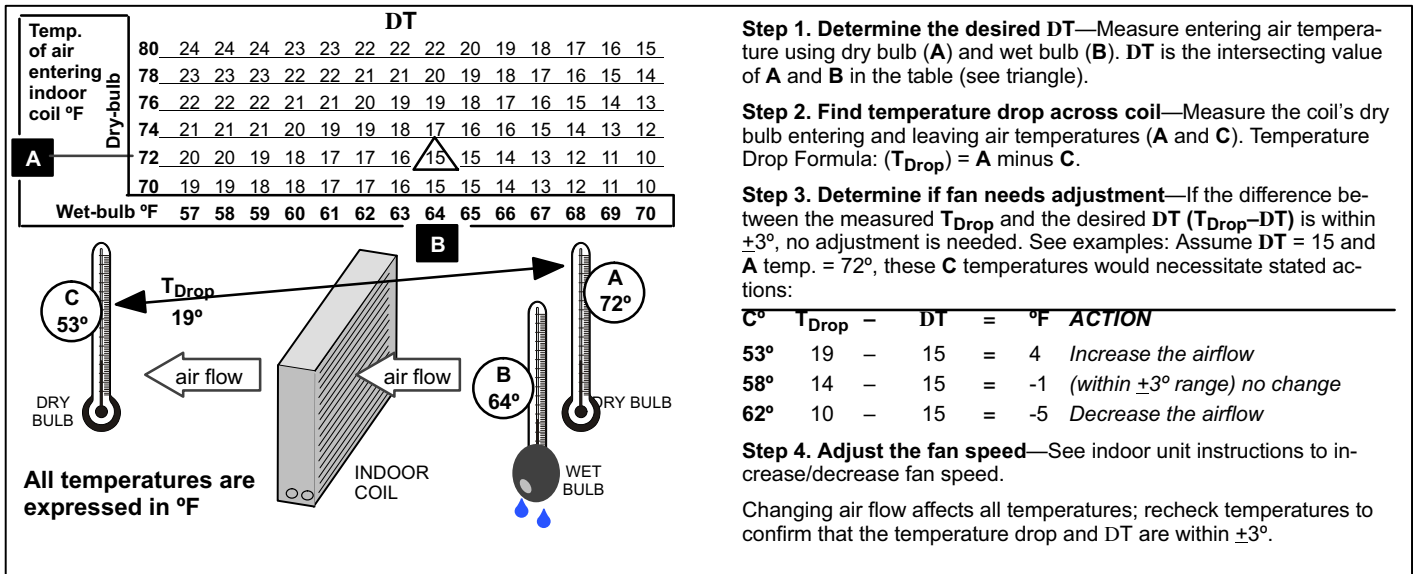

Figure 15. Checking Indoor Airflow over Evaporator Coil using Delta-T (DT) Chart
Check airflow using the Delta-T (DT) process (figure 15).
1. Check the airflow (figure 15, Page 13) to be sure the indoor airflow is as required. (Make any air flow adjustments before continuing with the following procedure.)